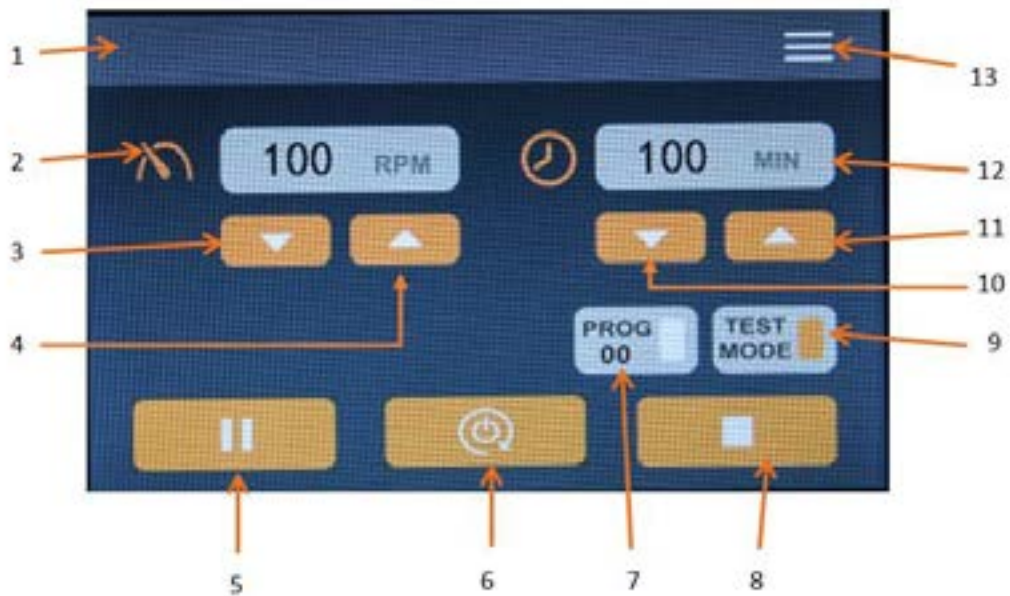

Fig. 7.1
7.1 Control panel of SAD-200 (Fig. 7.1)